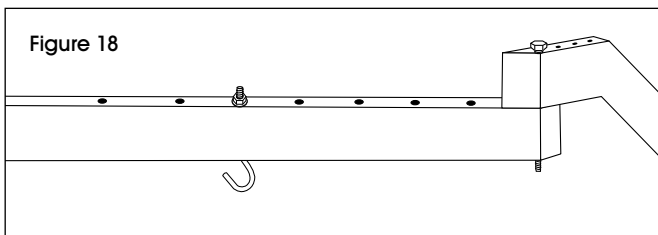

Figure 18
- 4a. For 60", 72" and 96" Light Kits: Place two "S" hooks (11) at desired mounting points along the steel beam (10) and secure with two M6 flange nuts. (See Figure 18)